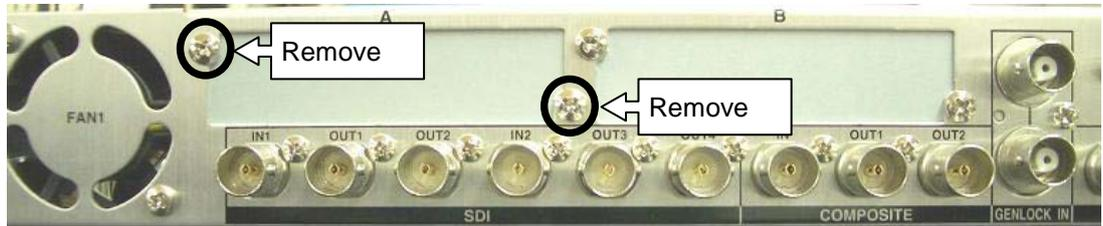

Fig. 20 Blank panel removal
2. Remove the blank panel attached to the slot into which you are going to install the option card. (Fig. 20.)